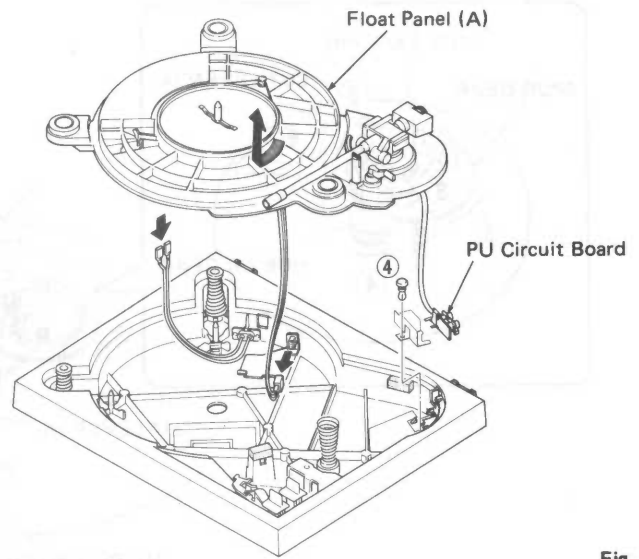

Fig. 2
- f. Remove the Float Panel (A) as shown in Fig. 2, and then detach the necessary connectors.
- g. Remove plastic rivet ( ④ ) in Fig. 2, and then remove PU Circuit Board.